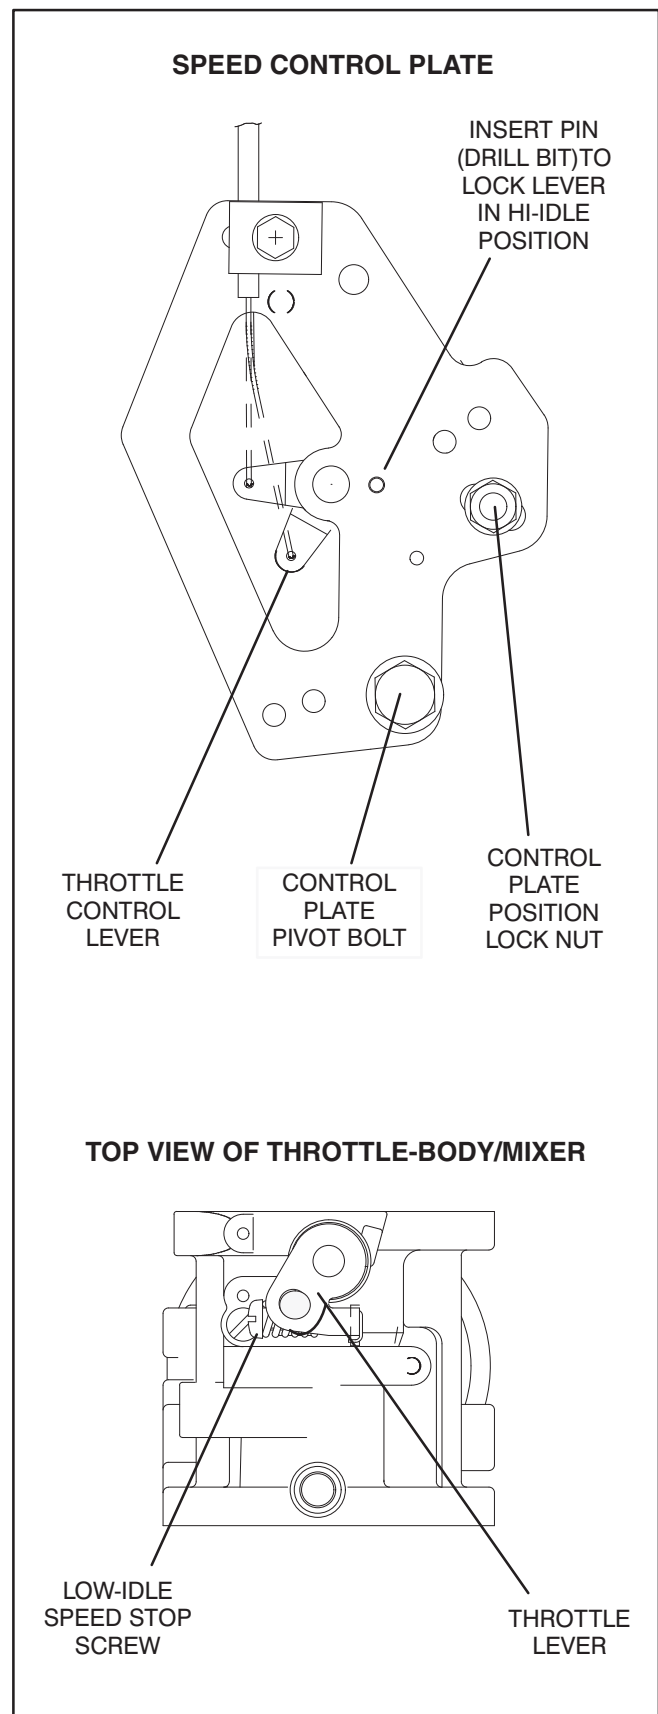

FIGURE 8-6. ENGINE SPEED ADJUSTMENTS
- 1.. Remove the outer air cleaner cover for access to the low-idle speed screw (Figure 8-6).
- 3.. While holding the throttle lever against the low-idle speed stop screw on the top of the throttle-body/mixer (Figure 8-6), turn the screw to obtain the specified low-idle speed.